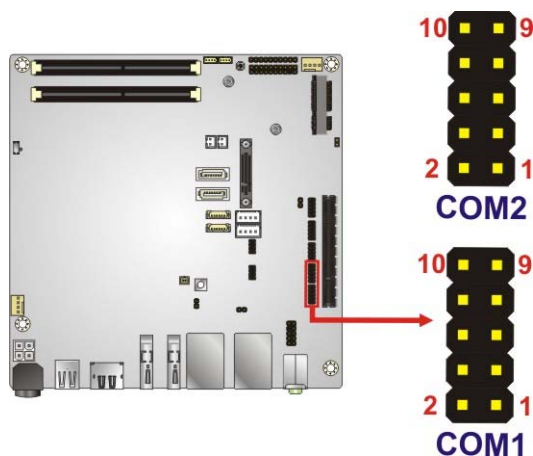

Figure 3-17: RS-232 Serial Port Connector Locations
- CN Location:** See **Figure 3-17**